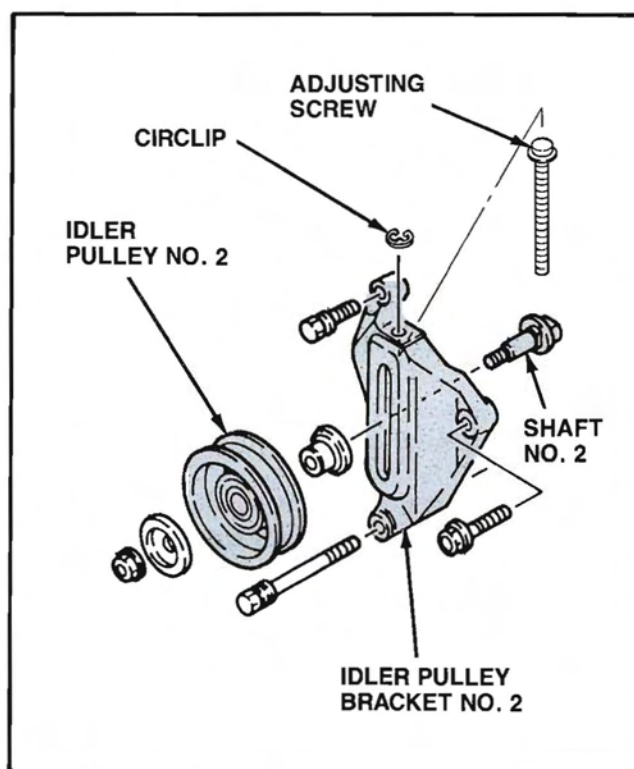

Figure 155. Idler Pulley Subassembly 2 Installation
1. Install idler pulley shaft 2 with adjusting screw 2 to idler pulley bracket 2 and install the circlip to adjusting screw 2 (Fig. 155).